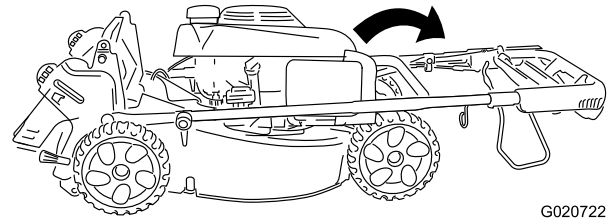

Figure 4
2. Carefully move the upper handle forward until the handle halves are in line and nest together as shown in Figure 4.